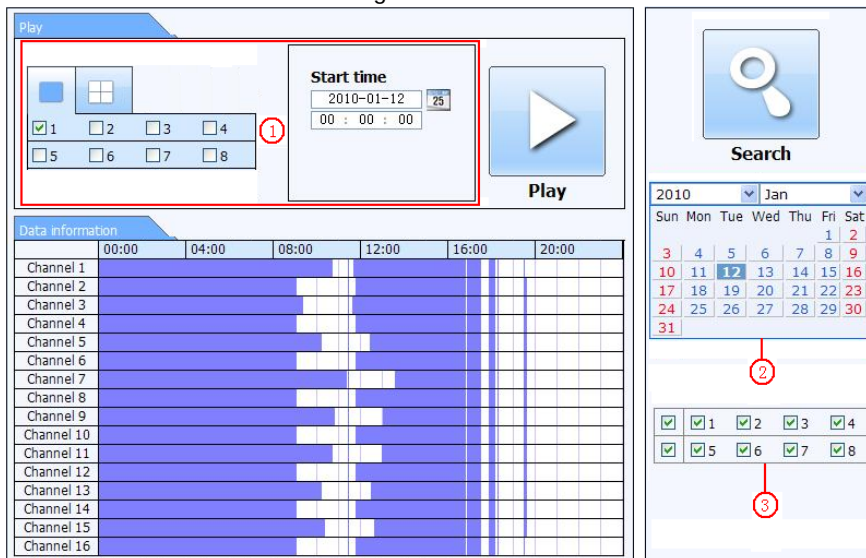

Fig 7.6 Time Search Interface
Step1: Enter into Search → time search. Refer to Fig 7.6.